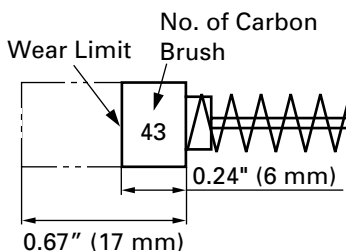

Fig. 28
## 4. Inspecting the carbon brushes (Fig. 28)
**NOTE:** Use HITACHI carbon brush No. 43 indicated in Fig. 28.